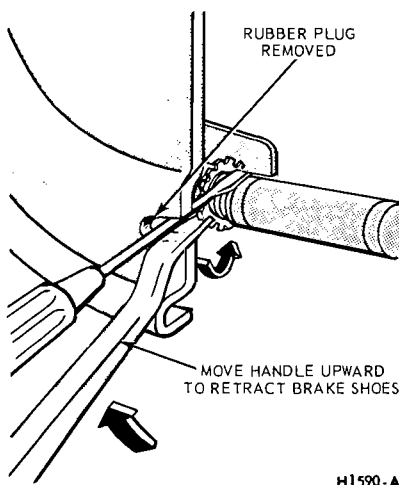

FIG. 6 Backing Off Brake Adjustment
4. If the drum will not come off, pry the rubber cover from the brake backing plate. Insert a narrow screwdriver through the slot and disengage the adjusting lever from the adjusting screw. While holding the adjusting lever away from the screw, back off the adjusting screw with the brake adjusting tool (Fig. 6). **Be very careful not to burr, chip, or damage the notches in the adjusting screw; otherwise the self-adjusting mechanism will not function properly.**
2. Remove the hub cap and wheel. Remove the three drum retainer nuts and remove the brake drum. If the drum will not come off, pry the rubber cover from the backing plate. Insert a narrow screwdriver through the hole in the backing plate, and disengage the adjusting lever from the adjusting screw. While holding the adjusting lever away from the adjusting screw, back off the adjusting screw with the brake adjusting tool (Fig. 6). **Be very careful not to burr, chip, or damage the notches in the adjusting screw; otherwise the self-adjusting mechanism will not function properly.**